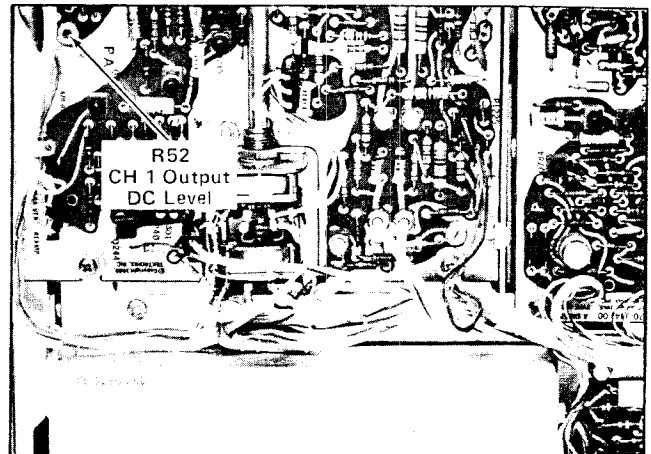

Fig. 5-13. Location of CH 1 output DC level adjustment (Vertical Preamp circuit board).
- g. ADJUST—CH 1 Output DC Level adjustment R52 (see Fig. 5-13) to position the trace to the center horizontal graticule line.